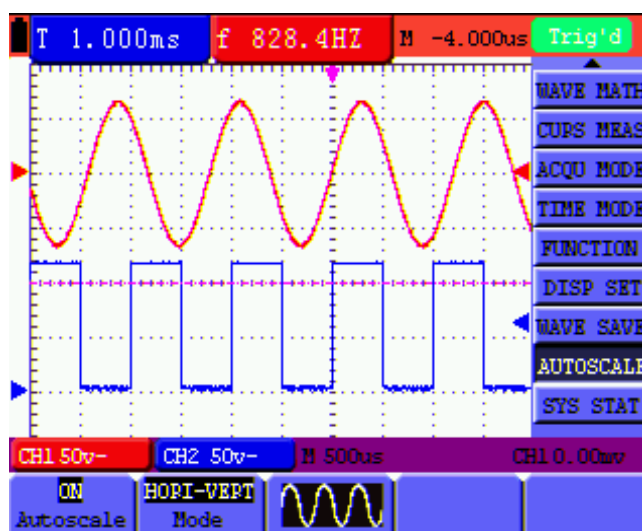

Figure 57: Autoscale Horizontal- Vertical multi-period waveforms
5. Press **F3** and  displays on the screen as figure 57: